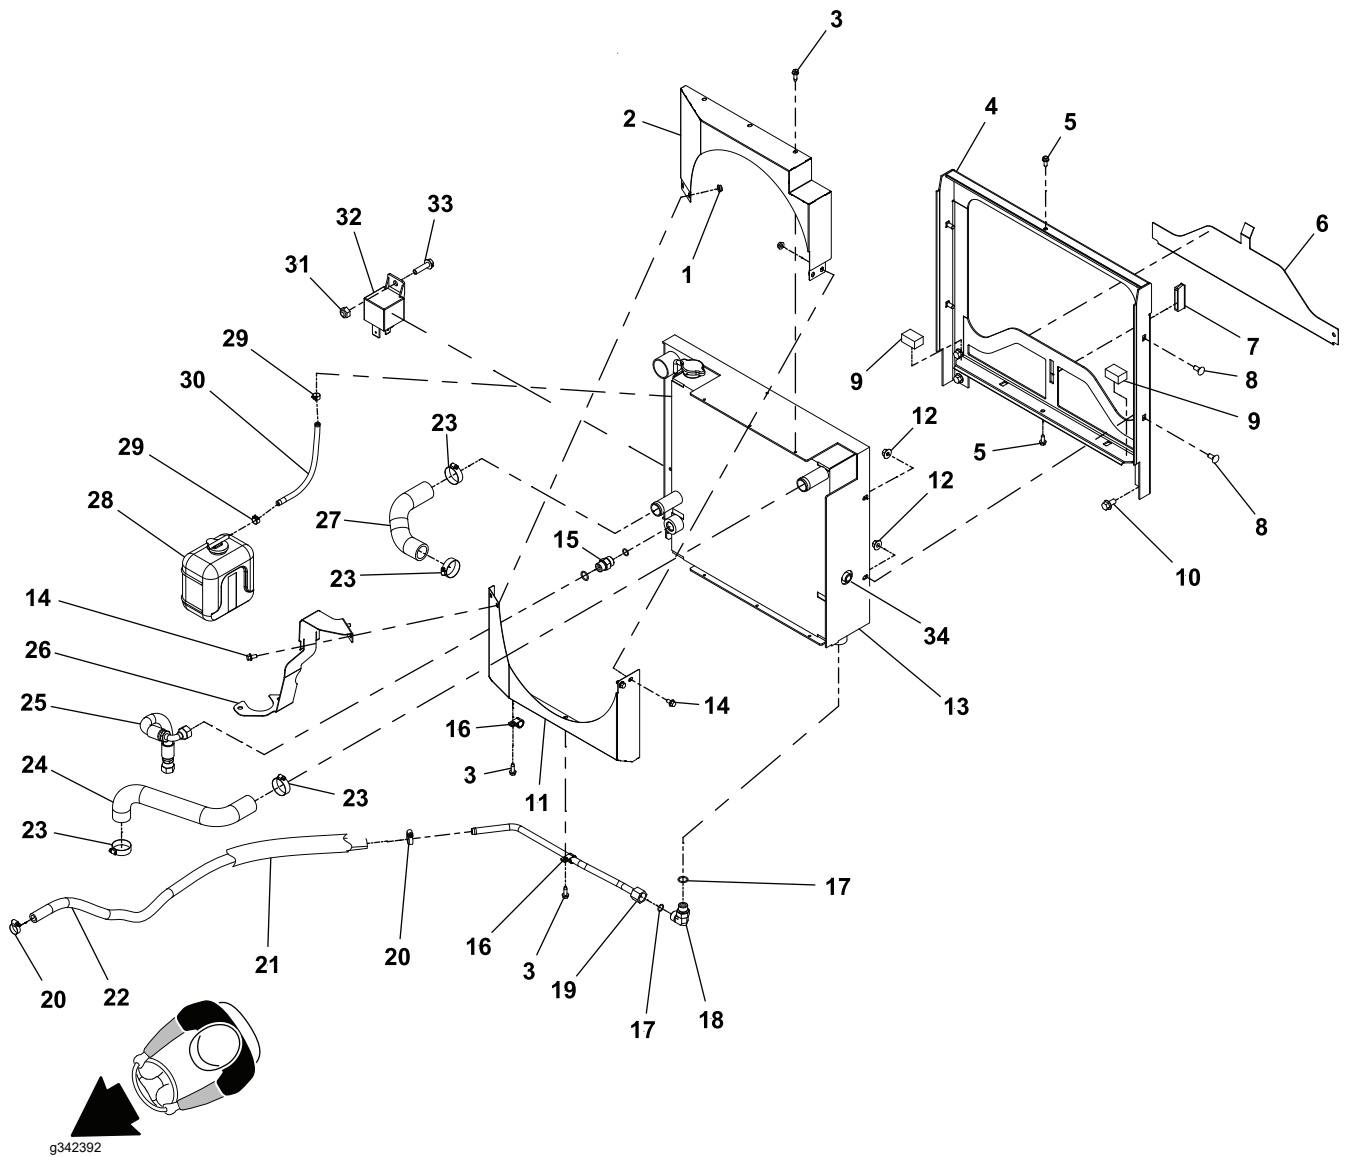

Figure 15
3. Place a suitable container under the radiator to collect the coolant. Open drain plug (item 34 in Figure 15), and completely drain the radiator.
4. Remove glow plug relay (32) from the radiator assembly (13). Position relay away from the radiator.
- A. Upper radiator hose (24) to the water pump.
- B. Lower radiator hose (27) to the engine block.
- C. Coolant hose to the reservoir (30).